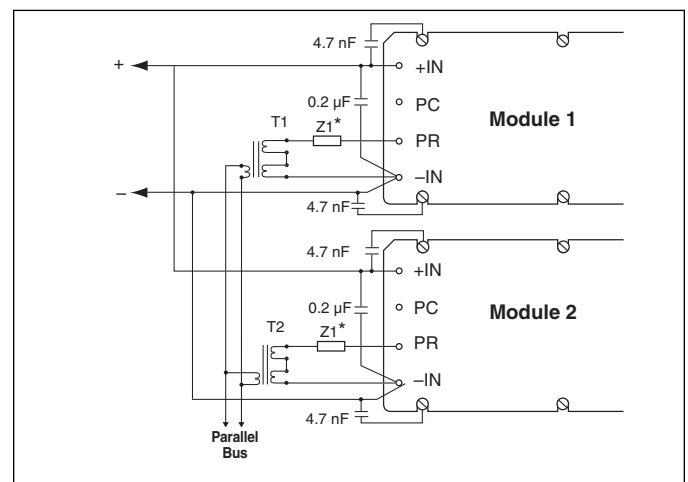

Figure 2-8 — Transformer-coupled interface
2. Transformer-coupled interface: Modules or arrays of modules may also be interfaced to share a load while providing galvanic isolation between PR pins via a transformer-coupled interface. For large arrays, buffering may be required. The power source for the buffer circuit may be derived from the PC pins. For arrays of four or more modules, the transformer coupled interface is recommended. (Figure 2-8)
Some applications require physical separation of paralleled modules on different boards, and/or input power from separate sources. For applications using separate sources, please refer to the "Hot-Swap Capability Eliminates Downtime" application note on Vicor's website. In these cases, transformer coupling of the PR signal, per Figure 2-8, is required to prevent inter-module common-mode noise